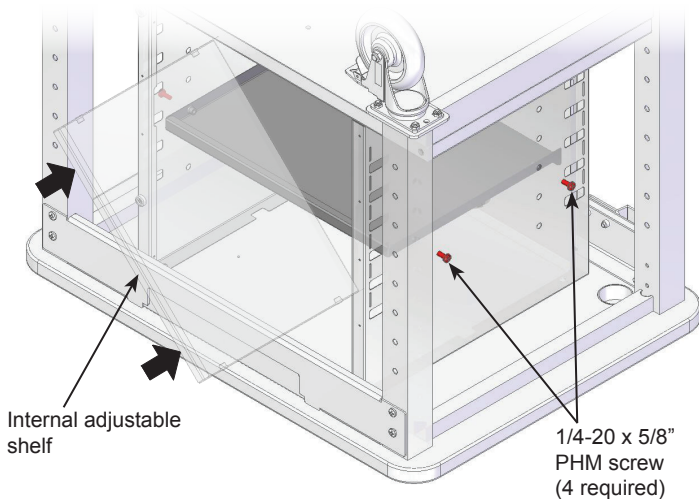

Figure 2.3
7. Tip the internal adjustable shelf at 45° and insert into the cabinet. **Figure 2.3.** Note: The flat side of the shelf will face the bottom of the worksurface.
8. Align and attach the shelf at the desired height using (4) 1/4-20 x 5/8" PHM screws.